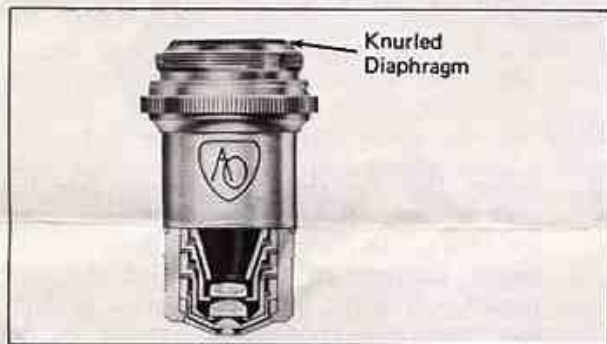
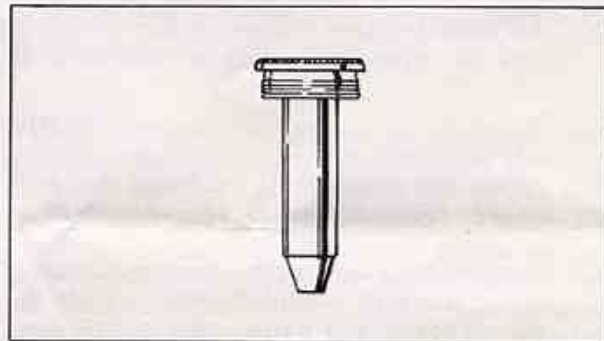

Figure 8. Cross Section of Oil Immersion Objective, 100X
Figure 9. Funnel Stop
5. Remove the oil immersion objective from the microscope nosepiece. Unscrew the knurled diaphragm (Figure 8) from the back of the objective. Replace this diaphragm with a funnel stop (Figure 9) supplied with the darkfield condenser. Place the objective back on the nosepiece.